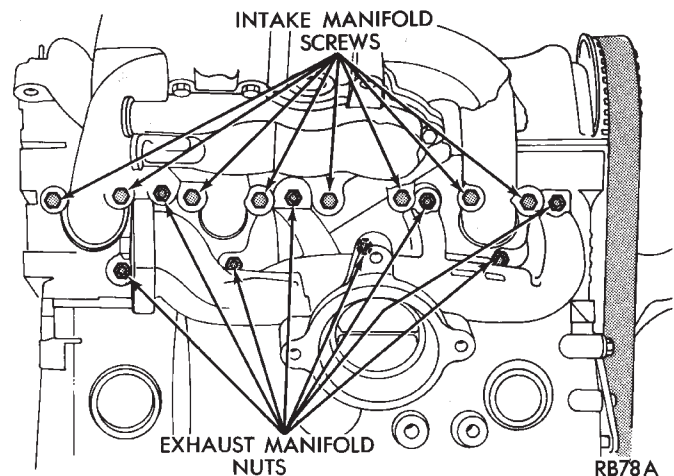

Fig. 3 Intake and Exhaust Manifold Attaching Points—2.2/2.5L Engines
- Remove intake manifold retaining screws (Fig. 3).
- Remove exhaust manifold retaining nuts (Fig. 3).
(1) Install a new intake and exhaust manifold gasket. Coat steel gasket lightly with Gasket Sealer on manifold side. **Do not** coat composition gasket with (any) sealer.
(2) Set exhaust manifold in place. Tighten retaining nuts starting at center and progressing outward in both directions to 23 N•m (200 in. lbs.) torque. Repeat this procedure until all nuts are at specified torque.
(3) Set intake manifold in place.
(4) Raise vehicle and tighten retaining screws starting at center and progressing outward in both directions to 23 N•m (200 in. lbs.) torque (Fig. 3). Repeat this procedure until all screws are at specified torque.
(5) Reverse removal procedures 1-9 for installation.
(6) With the DRB II use ASD Fuel System Test to pressurize system to check for leaks.